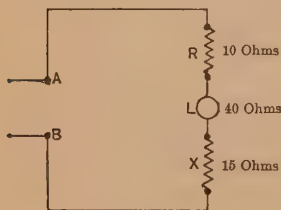

FIG. 30. Series combination.
**Example 2.** In the series circuit of Fig. 30, 3 amperes are flowing.
It should be noted that in solving the Example on page 28, Fig. 30, Ohm's Law was used in (a) to find the voltage necessary to force the current through the whole circuit of the three resistances,  $R$ ,  $L$  and  $X$ .